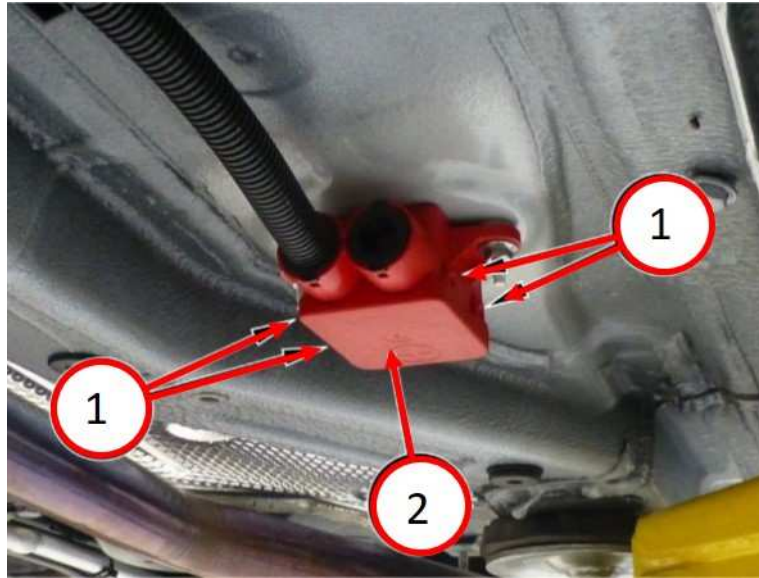

Fig. 2
- Using a small flat blade screwdriver, pull up the side retainers and remove the cover (Fig. 2) of the charging cable junction node.